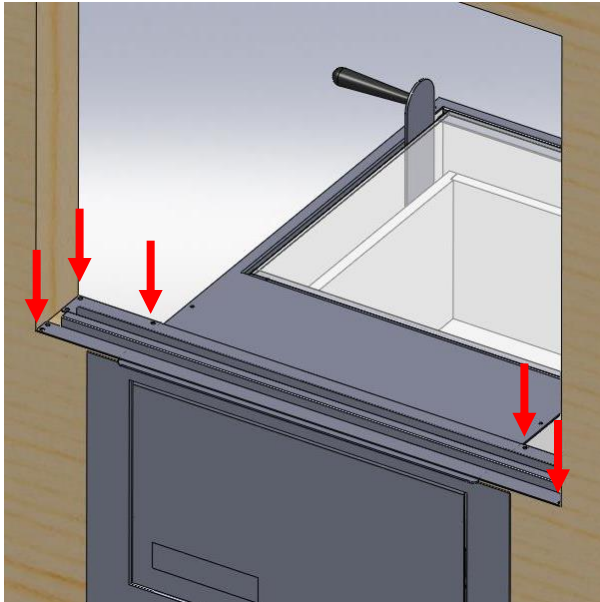

Figure 15. Fasten the Mounting Plates to the frame of the cut-out
- I. Remove the Glass Retaining Brackets and fasten the Mounting Plates to the framing of the cut-out according to the holes in the plates (**Figure 15**). Pre-drill and countersink each of the mounting holes before fastening.